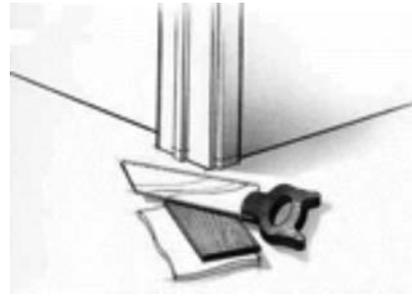

Figure: 1
- Door trims and doorjamb must be undercut to allow the floor to move freely. Use a discarded piece of floor to support the saw blade at the correct height for undercutting. (See figure 1)